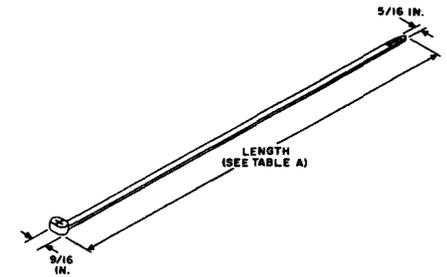

Fig. 4—C Lashed Cable Support
2.04 The C lashed cable support (Fig. 4) is a black molded nylon strap approximately 5/16 inch wide with a molded ratchet buckle on one end which is self-locking and nonreleasable.